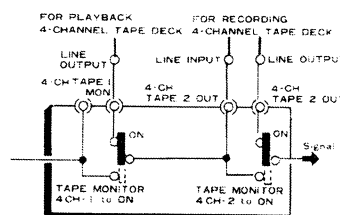

Fig. 23
1. As shown in Fig. 23, connect the playback 4-channel tape deck to the 4CH TAPE 1 terminals and the recording 4-channel tape deck to the 4CH TAPE 2 terminals. Refer to the section on Tape Deck Connection for connecting method. See page 9.